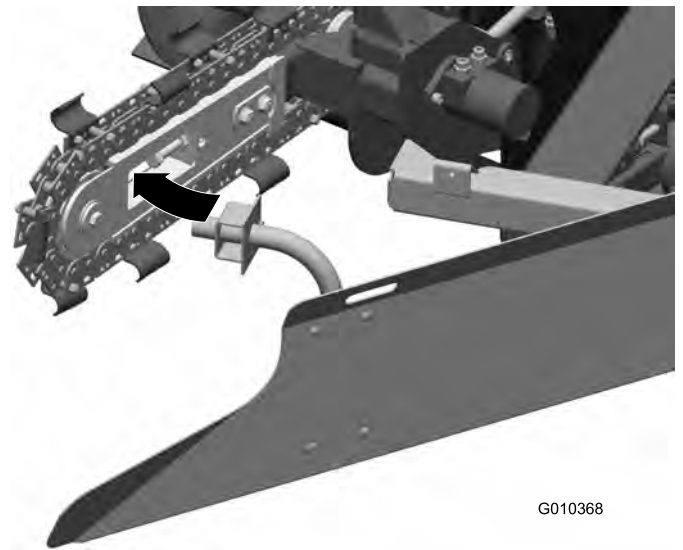

Figure 4
4. Swing the blade to the right, inserting the front mounting bracket into the opening in the boom (Figure 4).